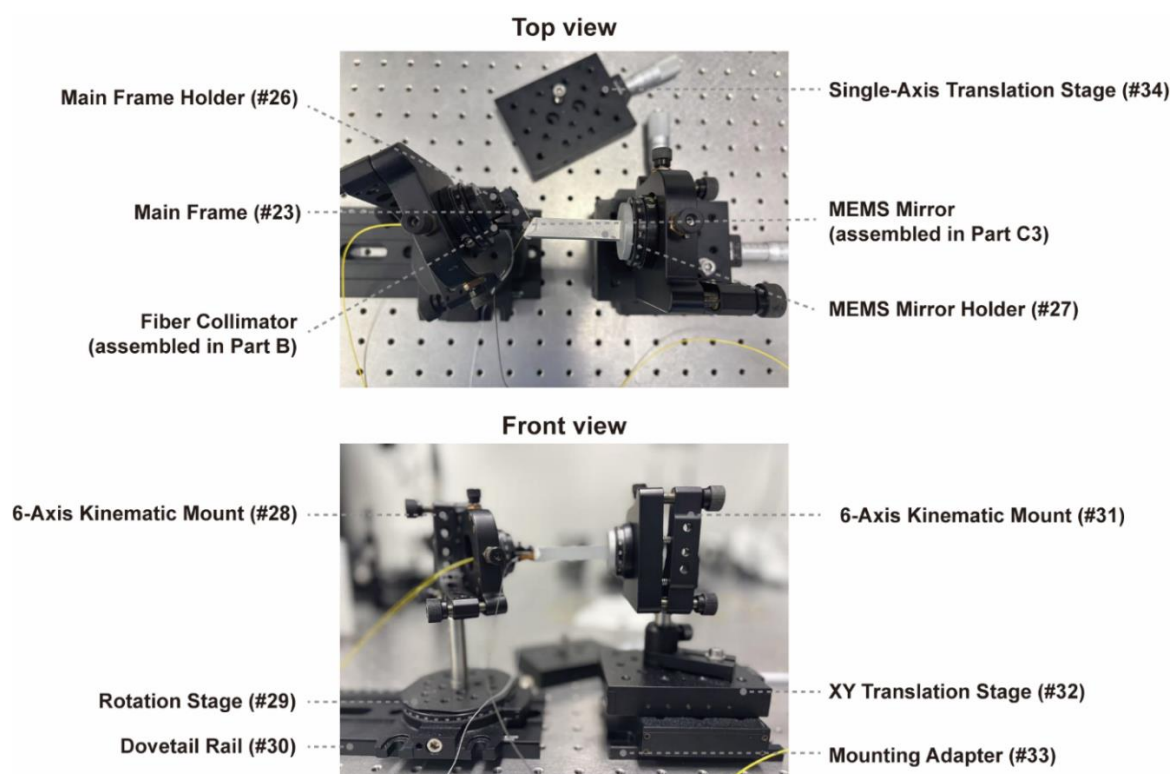

Figure 4.1 Assembling stage
Step 35. Set up the assembling stage (Figure 4.1). Align the center of two 6-axis kinematic mounts (#28 and #31) by screwing z-axis adjustments of the mounts.
Step 37. Mount the MEMS mirror (assembled in **Part C3**) onto the MEMS mirror holder by using Tack-It (Figure 4.1). Carefully remove the protective glass of the MEMS mirror with a tweezer.